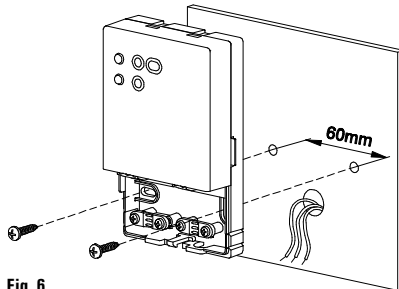

Fig. 6
- 5 Fix the plate onto the wall using the two screws housings with a 60 mm centre-to-centre distance (use the screws and/or dowels supplied) - Fig. 6.